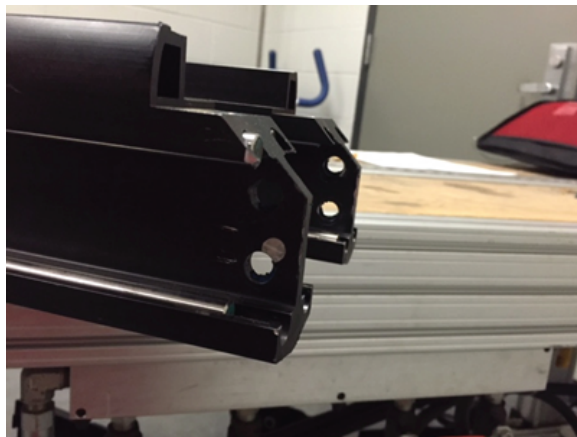

Figure 15:
18. Inspect the ends of the transfer extrusion (Figure 15 on page 5). Cracks or deformation of the transfer extrusion at the dead stops indicates that the product has been in a major crash.